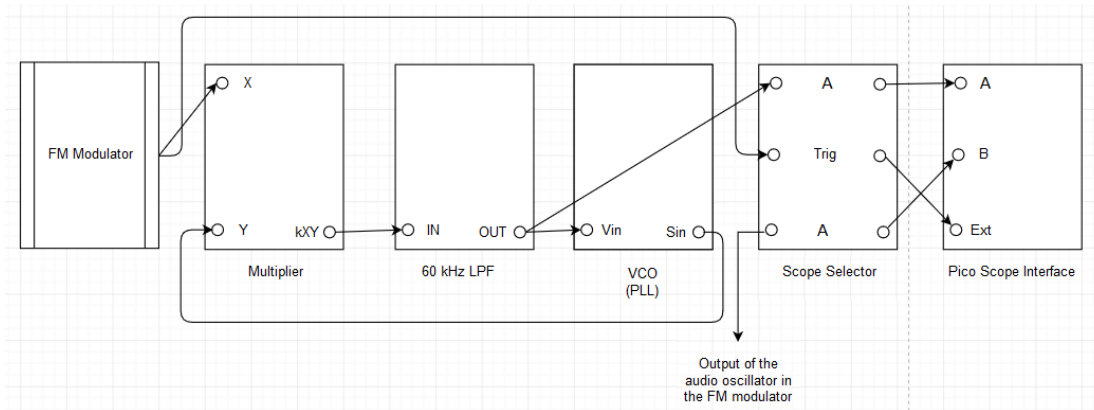

Figure A.3.4: NBFM and WBFM demodulator setup.
- i. Retain the modulator setup with modulation index of 0.3 and make the demodulator setup as show in the Figure A.3.4.